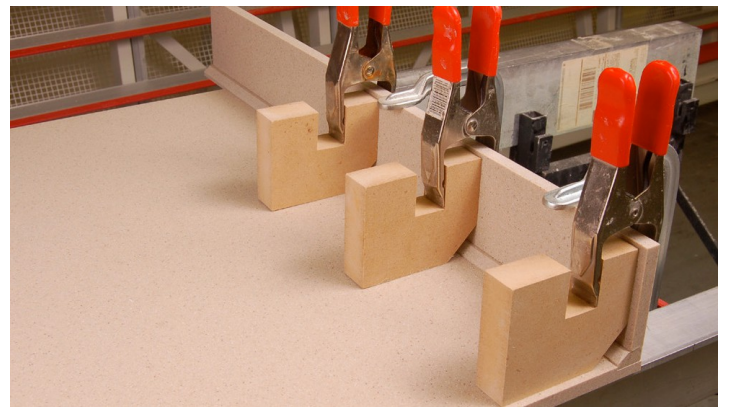

Figure 33B
- Backsplash squaring block (FIG. 33B)